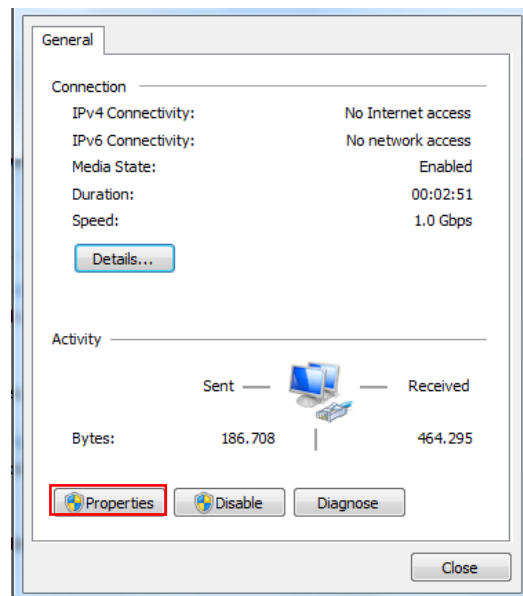

Figure 2-2
- A click on LAN-Connection will open the LAN-Connection Status (see Figure 2-2).